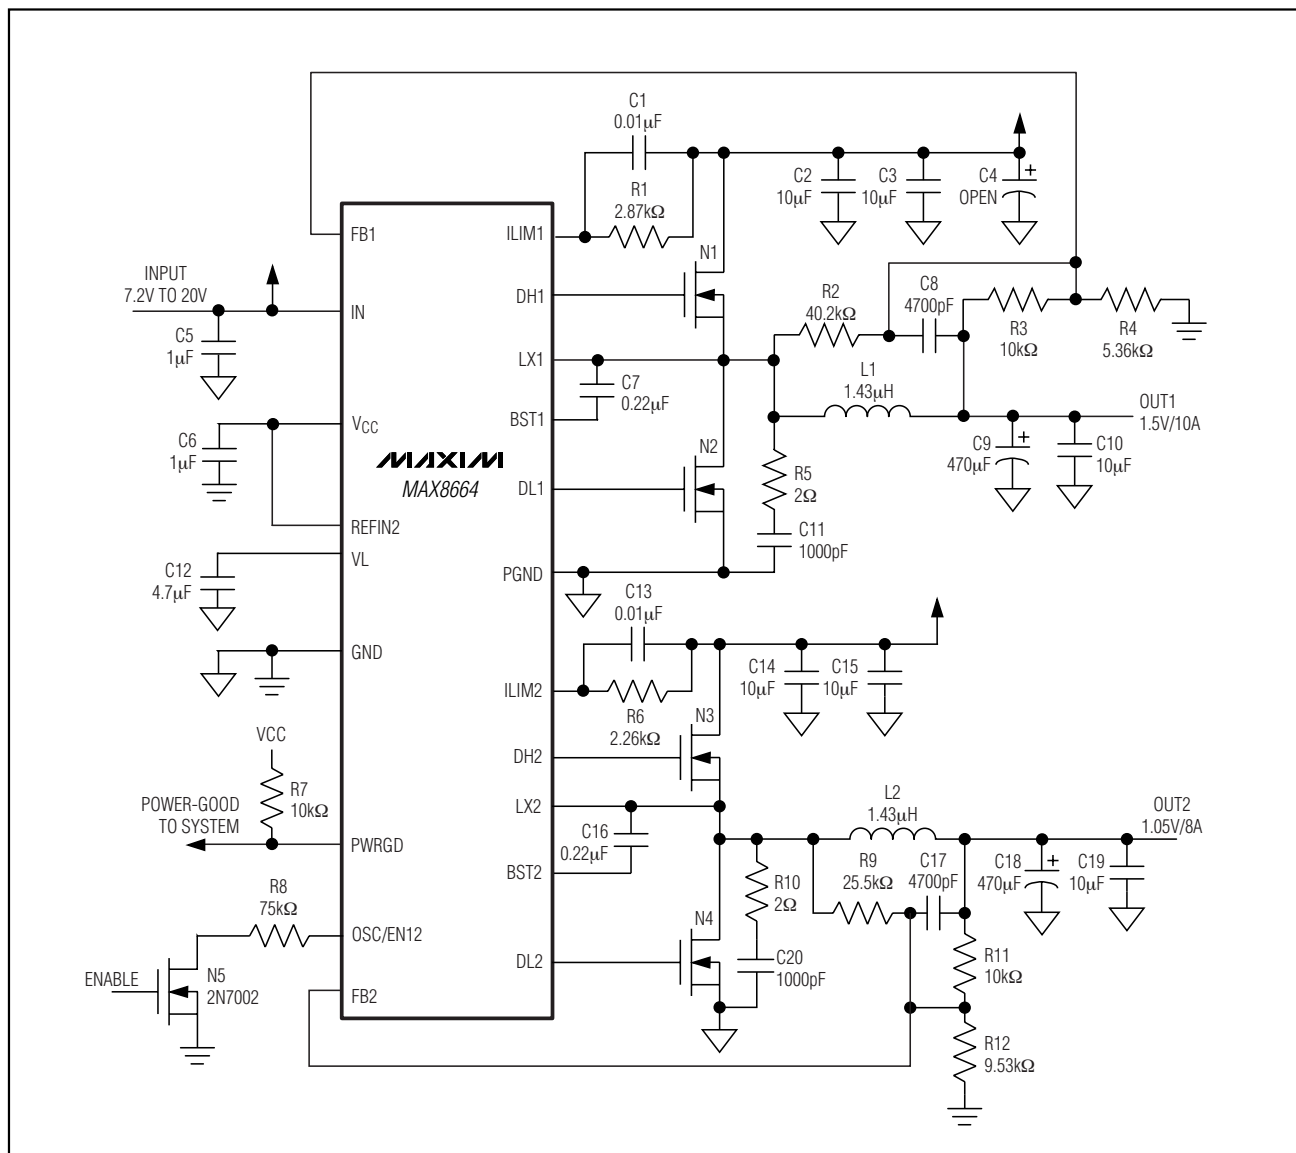

Figure 5. 300kHz Circuit with 7.2V to 20V Input
**Table 5. Component List for Figure 5**